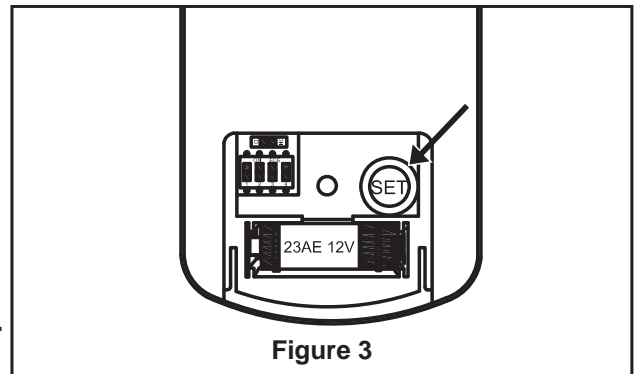

Figure 3
3. **Remote Control Setting and Speed (RPM) Setting Process : (Figure 3)**
3. Reinstall the upper housing to the motor assembly using the previously removed three screws. (Figure 3)